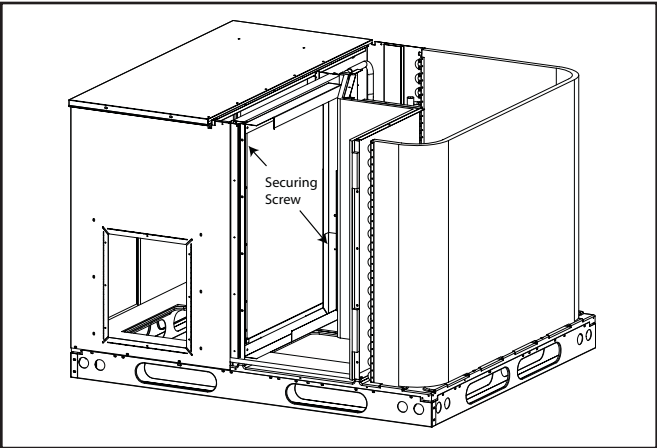

Figure 3a. Internal Filter Rack Location
adjustment screw from the inside of the rack, and the (1) screw securing the assembly to the coil located on the left leg of the rack. The assembly can easily be collapsed and removed from the unit. See Figure 3a for filter rack securing screw locations.